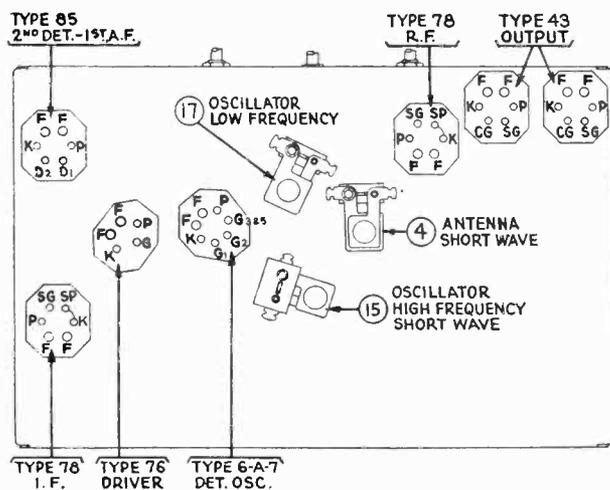

Fig. 1—Tube Sockets
For adjusting compensating or padding condensers in Model 49, an accurately calibrated signal generator covering the broadcast range of frequencies is required and also a crystal controlled signal generator for the high frequency adjustments. For the former we suggest the Philco Model 024 Signal Generator and for the latter the Model 091, Crystal Controlled high frequency signal generator. The actual adjusting calls for a special insulated hex wrench and insulated screwdriver. Philco Part No. 3164 Fibre Wrench and No. 27-1159 Screwdriver are recommended. An output meter is also required, for connection to the receiver. Figs. 1 and 2 show the locations of the various compensating condensers.
OSCILLATOR—LOW FREQUENCY—This is condenser ⑰ (see Fig. 1) located underneath chassis and accessible from underneath. Use the fibre wrench. Set signal generator switch at 600, tune in the signal at 600 on the dial and adjust condenser to maximum.
All readings above made with a high resistance multirange D. C. voltmeter using test prods applied to tube sockets underneath chassis (See Fig. 1). Volume control at maximum, wave-hand switch at left (standard broadcast) and dial at 550 K.C.